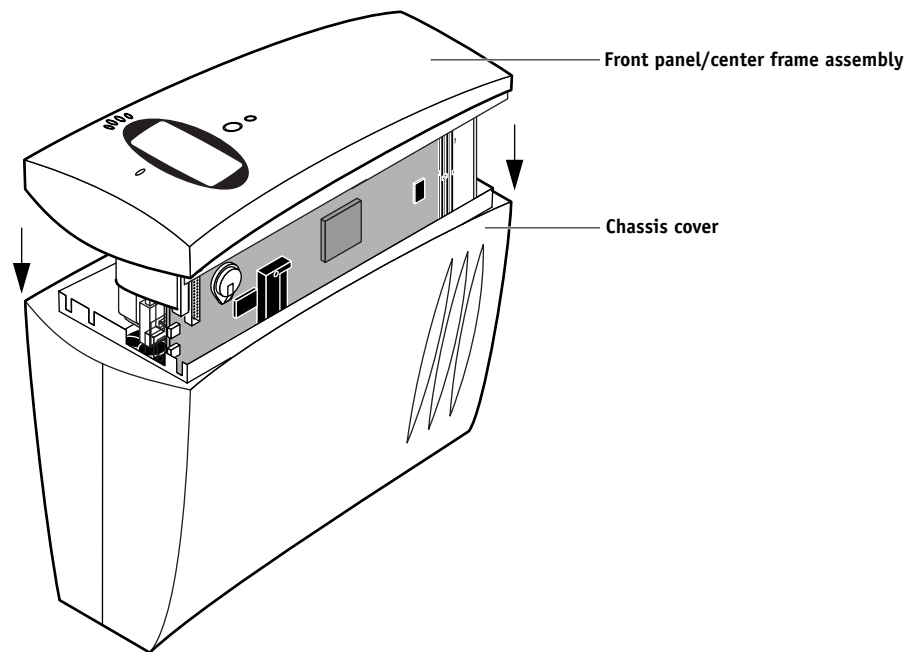

FIGURE 4-8 Reassembling the iR-M1
4. Hold the front panel/center frame assembly above the open chassis cover and then lower it gently into the chassis cover (see Figure 4-8).